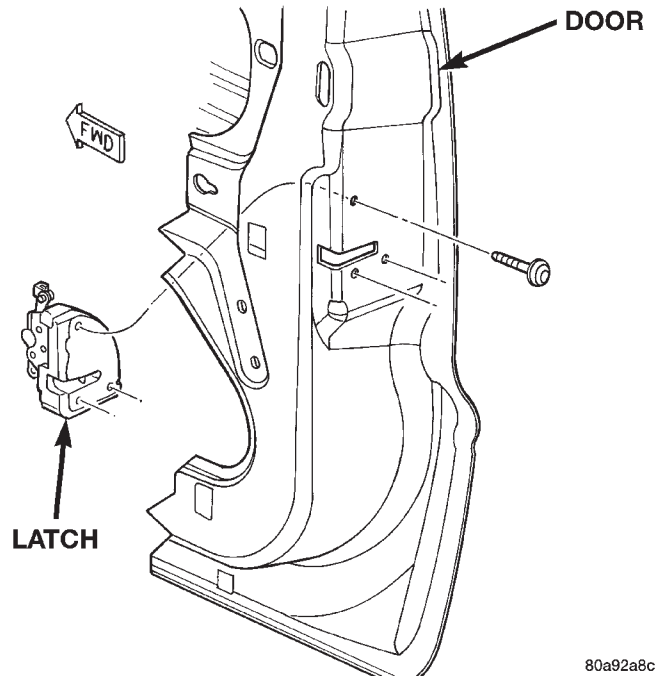

Fig. 31 Latch
- (1) Remove door trim panel.
- (2) Peel back water dam as necessary.
- (3) For access to latch, roll up glass and remove bolts attaching rearward glass run channel to door. Move and secure glass run channel.
- (4) Remove screws attaching latch to door shut face (Fig. 31).